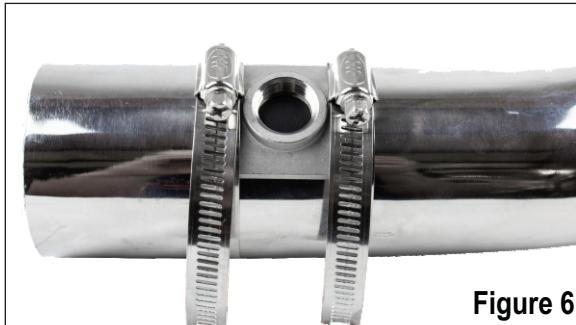

Figure 6
- G.** The supplied bung kit can either be welded in place or clamped onto the pipe, see figure 6. The clamp-on style works well and will not leak. If welded, make sure the bung is welded completely all the way around and does not leak. Place the gasket on the tube, then the casting on the tube. Slip a clamp on one side and lightly tighten. Slip the second clamp on and lightly tighten on the opposing side. It is necessary to use a small amount of anti-seize on the threads of the T bolt clamps to prevent thread damage.